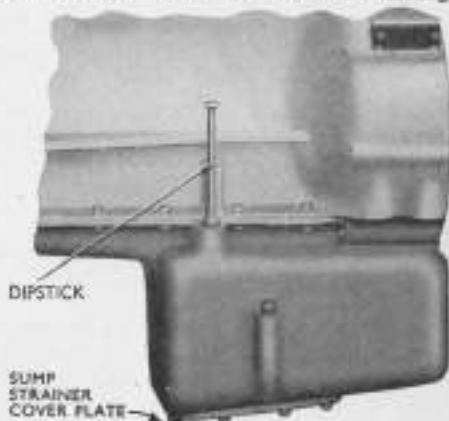

Fig. 11. Engine Oil Dipstick.
| Engine Sump | .. | Check level of oil in sump and top up if necessary, with 30 H.D. to top mark on dipstick (Fig. 11). Do not fill above the level indicated. |
Engine Sump and Strainer. Drain by removing the two drain plugs. Under supervision, remove the sump strainer and cover plate (*see Fig 11*), by unscrewing the six nuts securing the cover plate to the rear end of the bottom of the sump. The sump strainer will be removed with the cover plate—do not separate. Clean the strainer with paraffin, then refit to sump, exercising care that the oil suction pipe enters the hole in the strainer. Refit the two drain plugs and secure with locking wire. Refill with oil to top mark on dipstick.
- (A) **CHECK LEVEL OF OIL IN SUMP** and refill, if necessary, to the top mark on dipstick (*Lubrication Chart Reference No. 1*). This is in addition to daily replenishment and periodical oil change ; see page 22. Use oil 30 H.D. (see Figs. 11 and 13).
- (B) **CHECK READING ON OIL PRESSURE GAUGE** (with engine running).